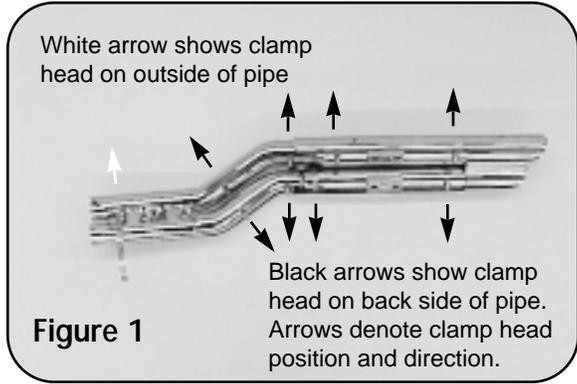

Figure 1
- Loosely install tailpipe heat shields (part # D285HC and D286HC) to headers using four #20 hose clamps and one #56 hose clamp. Note position and direction of clamp heads. (Figure 1)
- Slide muffler heat shield (D287HC) on from the rear and loosely install four #36 hose clamps. Note position and direction of clamp heads. (Figure 1)